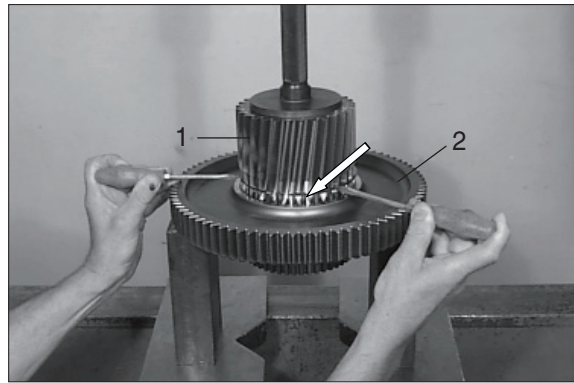

Figure 182
**Preassemble and install spur gear K2 (figure182~186) :**
- (1) Undercool gear 1 (approx -80°C) and heat gear 2 (approx 120°C). Engage the snap ring (arrow), preload it and join both components by means of hydraulic press until the snap ring engages into the annular groove of gear 2.